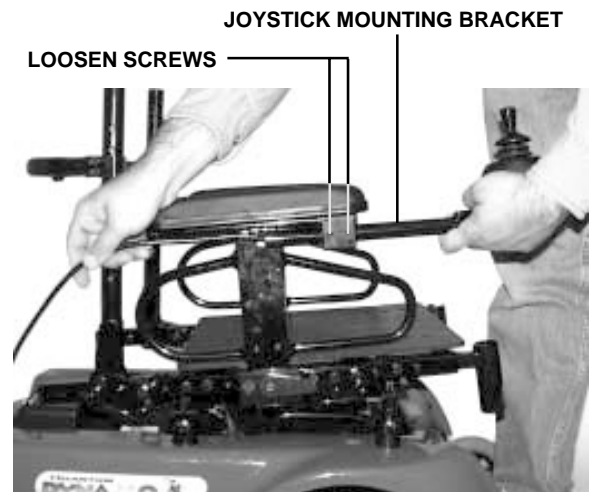

Figure 13. Joystick Extension Adjustment
1. Use a 1/8-in. hex key to loosen the setscrews in the joystick mounting block. See figure 13.